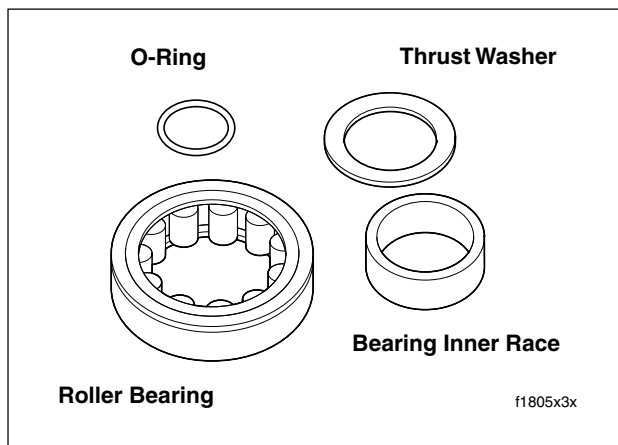

Figure 3-111. Rear Cam Roller Bearing Kit (P/N 8983)
1. Obtain new rear cam roller bearing kit (Part No. 8983). See Figure 3-111.